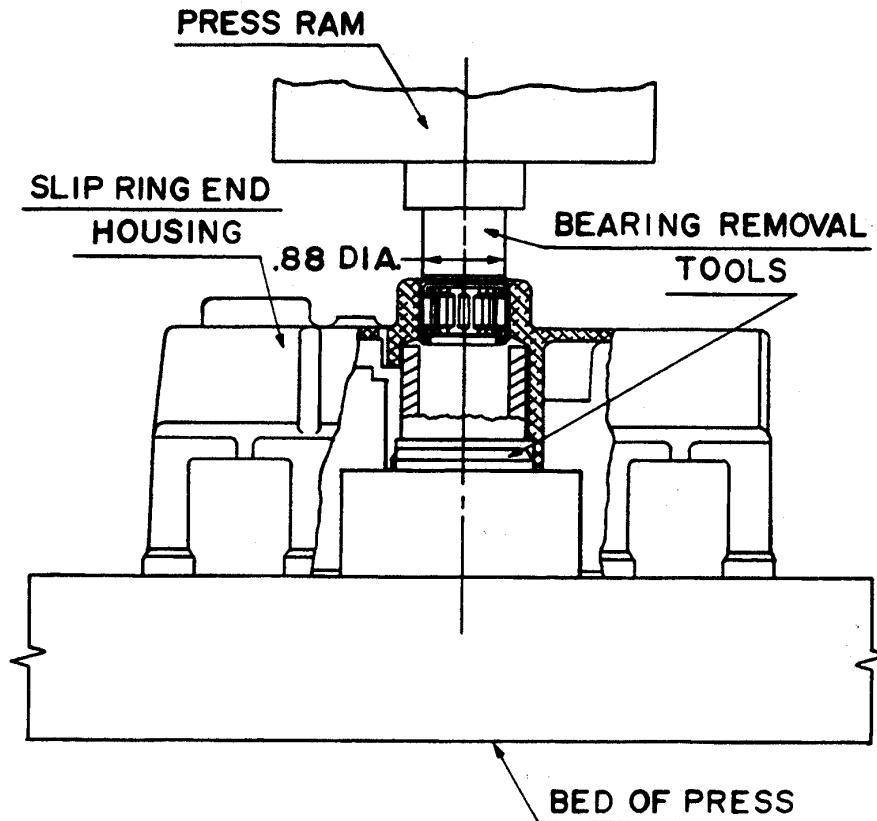

FIGURE 16
1. Place the slip-ring end housing (30) in an arbor press. Support the rear housing at the area directly below the bearing boss. as shown, to prevent breakage or distortion of the housing. (See Figure 16.)
2. Use special tools or fabricate tools to the dimensions shown and press the roller bearing (36) from the outside. Discard the bearing.